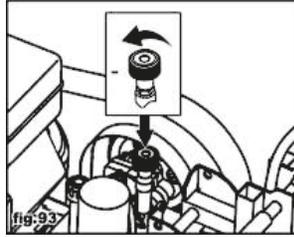

fig.93
-Turn pressure control knob to "low pressure spray" (fig.93)